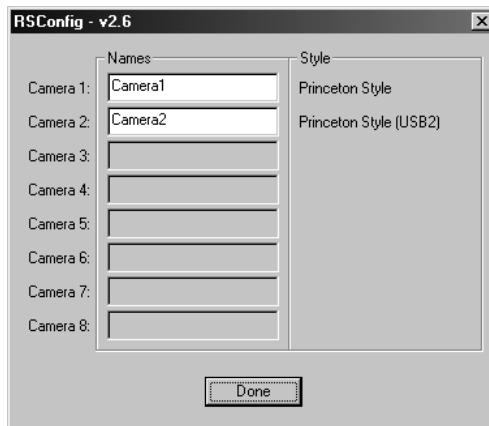

Figure 60. RSConfig dialog box: Two Camera Styles
4. Run RSConfig.exe (accessible from the **Windows|Start|Programs|Roper Scientific** menu). If the USB 2.0 camera is listed as Camera 2 (Princeton Style (USB2) in Figure 60), you will have to edit the PVCAM.INI file.